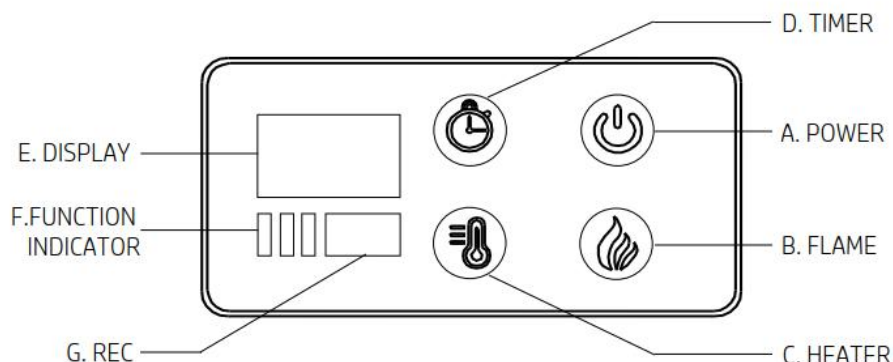

Figure 3
■ POWER (Figure 3.A):
■ FLAME (Figure 3.B):
- Press the flame button (B) to set the flames for different levels of flame height. These flame levels are shown in the display (E). The flame settings are as follows:
- Press FLAME button 6S to FLAME SPEED mode, After this is set, the display (E) turn off will exit from setting status.
■ HEATER (Figure 3.C)
- The heater button (C) turns the heater on or off. There is no speed setting for the heater blower. If you put the heater in a standby mode (turn off by the main power button A), the unit will hold the settings in the memory. When the power is turned back on, the heater will turn on at the same settings.
- When the heating function turns on, press and hold the heater button (C) to enter temperature adjustment mode. The LED indicator is red.
- There are 11 levels to change Fahrenheit temperature 72°F—74°F...82°F —ON—OF—62°F—64°F ...70°F. After this is set, the display (E) will flash five times and exit from setting status. If idle, the display turns off after 5 seconds.
- There are 11 levels to change Celsius temperature 22°C—23°C ...27°C—ON—OF—17°C— 18...21°C. After it is set, the display (E) flashes five times. If idle, the display turns off after 5 seconds.
■ **TIMER (Figure 3.D):**
- Press the TIMER button to turn the timer feature ON and OFF. This interval period is shown in the display (E) in blue. When turn is "OF" pressed, the timer is turn off.
- Press the TIMER button to set the turn off time between 0.5H to 9H, the are 30-1H-2H-3H-4H-5H-6H-7H-8H-9H. Upon the required turn off time is set, the display (E) 5 seconds and exit from setting status.
■ **DISPLAY (Figure 3.E)**
■ **FUNCTION INDICATOR (Figure 3.F)**
■ **REC(Figure 3.G)**